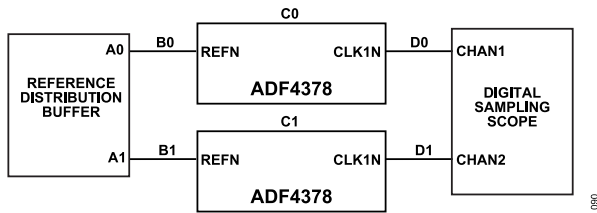
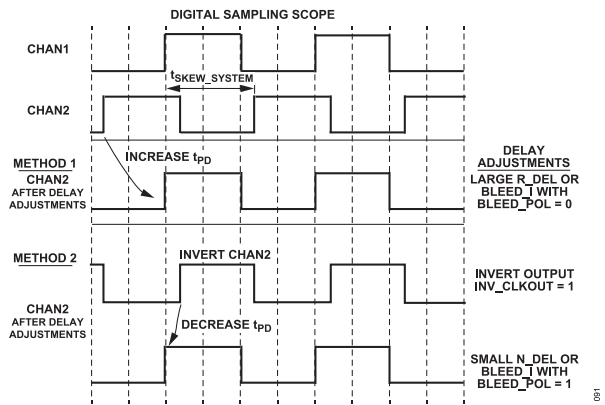

Figure 99. Total System Skew
Figure 100. Skew Adjustment Methods
Due to the controlled  $t_{PD}$  of the ADF4378 devices, it is reasonable to expect that a significant portion of the total system skew ( $t_{SKEW\_SYSTEM}$ ) is due to propagation delay mismatches in traces or cables ( $t_{SKEW\_B}$ ,  $t_{SKEW\_D}$ ), and skew in other components ( $t_{SKEW\_A}$ ) or instruments ( $t_{MEAS\_ERROR}$ ). Figure 99 and Equation 24 provide several sources of possible output skew error in a typical system. The Clock Skew in Large Multi-GHz Clock Trees article outlines the skew trade-offs in component selection, board design, and end-user cost requirements in large clock trees.
Figure 45 and Figure 43 show a general trend that an increasing magnitude of R\_DEL, N\_DEL, or BLEED\_I bit fields, Bits[9:0] causes a small increase in  $L_{NORM}$  and  $L_{1/f}$ . Increases in  $L_{NORM}$  and  $L_{1/f}$  result in clock jitter (see Figure 12 and Figure 15). Therefore, in the most performance sensitive applications, identifying ways to minimize the magnitude of the R\_DEL, N\_DEL, or BLEED\_I bit fields, Bits[9:0] values is required. As an example, Figure 100 provides two skew adjustment methods to minimize the skew in Figure 99. Method 1 only adjusts one of the reference to output delay adjustments provided in Table 39. Method 1 results in an R\_DEL, N\_DEL, or BLEED\_I bit fields, Bits[9:0] maximum adjustment equal to half an output cycle, or  $1/(2 \times f_{OUT})$ . Method 2 minimizes the magnitude of R\_DEL, N\_DEL, or BLEED\_I bit fields, Bits[9:0] by utilizing the output invert along with either R\_DEL, N\_DEL, or BLEED\_I bit fields, Bits[9:0] adjustments. When compared to Method 1, Method 2 results in a lower R\_DEL, N\_DEL, or BLEED\_I bit fields, Bits[9:0] maximum adjustment of a quarter cycle output cycle, or  $1/(4 \times f_{OUT})$ . Method 2 is further described in Table 41.
5. Program skew adjustments per Method 2 for other ADF4378, as shown in Figure 100.